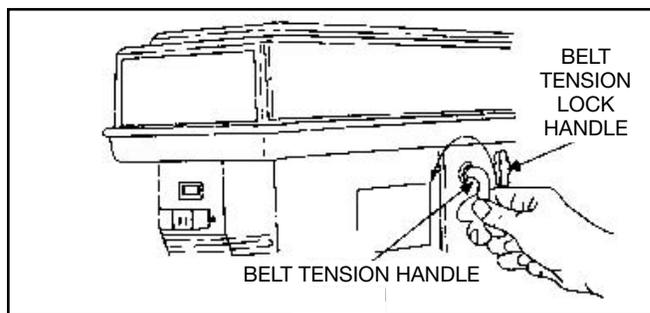

FIGURE 14
5. If belt slips while drilling, re-adjust belt tension. See figure 14.